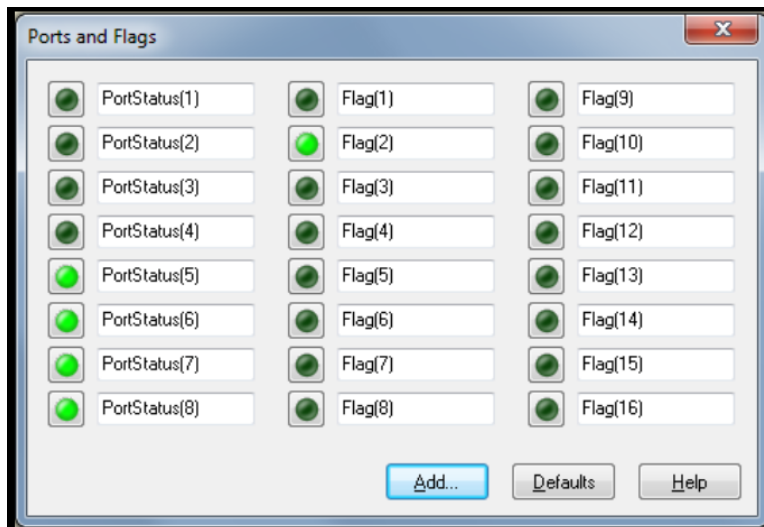

Figure 35. Flag 2 (High)
5. Turn **Flag [1]** on (high) then **Flag [2]** on (high) by clicking on the green dot/light icon. This stops the AIS Lake Buoy from profiling and places the Profiler system into Setup Mode, keeping it in idle (PARK) mode for the duration of the procedure. Figure 35 is an example of when **Flag [2]** is on (high) (this may take a minute to display).